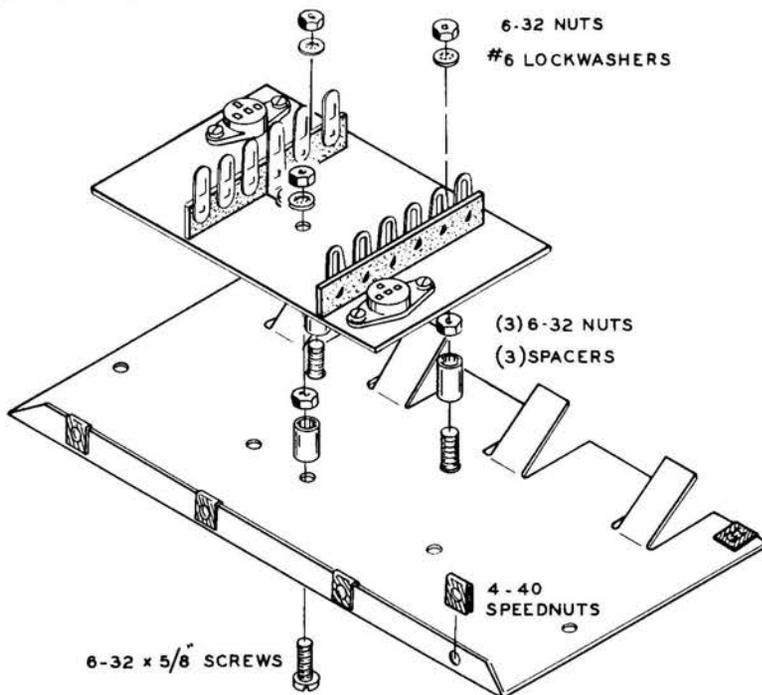

Figure 10G
- () Connect a 1-3/4" wire from lug 3 of transistor Q2 (S), through hole C, to the lower hole in lug 1 of terminal strip A (S).
- () Insert one end of a 1-3/4" wire through lug 2 (S) to lug 4 (S) of transistor Q2. Insert the other end of this wire through hole B and connect it to the lower hole in lug 2 of terminal strip A (S).
- () Connect a 1-3/4" wire from lug 1 of transistor Q2 (S), through hole A, to the lower hole in lug 4 of terminal strip A (S).
- () Connect a 1-3/4" wire from lug 1 of transistor Q1 (S), through hole X, to the lower hole in lug 6 of terminal strip B (S).
- () Insert one end of a 1-3/4" wire through lug 2 (S) to lug 4 (S) of transistor Q1. Insert the other end of this wire through hole Y and connect it to the lower hole in lug 5 of terminal strip B (S).
- () Connect the last 1-3/4" wire from lug 3 of transistor Q1 (S) through hole Z, to the lower hole in lug 3 of terminal strip B (S).
- Refer to Figure 10G for the following steps.